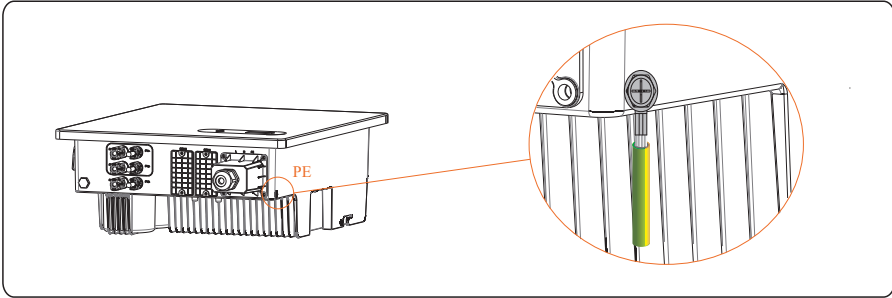

Figure 5.4 Secure the PGND cable
Step 4 Secure the PGND cable (done by step1&2) using the ground screw and tighten the screw to a torque of 1.2 N·m using a socket wrench, as shown in Figure 5.4.